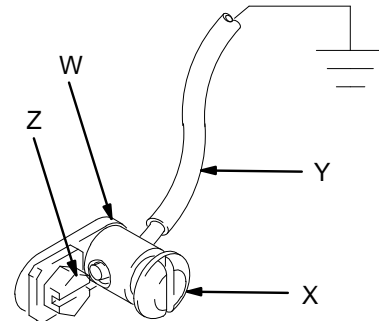

Fig. 1
- *Pump:* Use a ground wire and clamp as shown in Fig. 1.
1. *UL-Listed Pumps:* Use a ground wire, connector, and clamp. See Fig. 1. Loosen screw (X). Insert one exposed end of a 12 ga (1.5 mm2) minimum ground wire (Y) through the eye of the ground terminal connector (W) and tighten screw (X) securely. Connect the other end of the wire to a true earth ground. Order Part No. 237569 Ground Wire and Clamp.
2. *Non UL-Listed Pumps:* See Fig. 1. Remove the ground screw (Z). Fasten the ground connector (W) onto the pump with the ground screw (Z) and tighten securely. Loosen screw (X). Insert one exposed end of a 12 ga (1.5 mm2) minimum ground wire (Y) through the eye of the ground terminal connector (W) and tighten screw (X) securely. Connect the other end of the wire to a true earth ground. Order Part No. 222011 Ground Connector/Wire and Clamp.